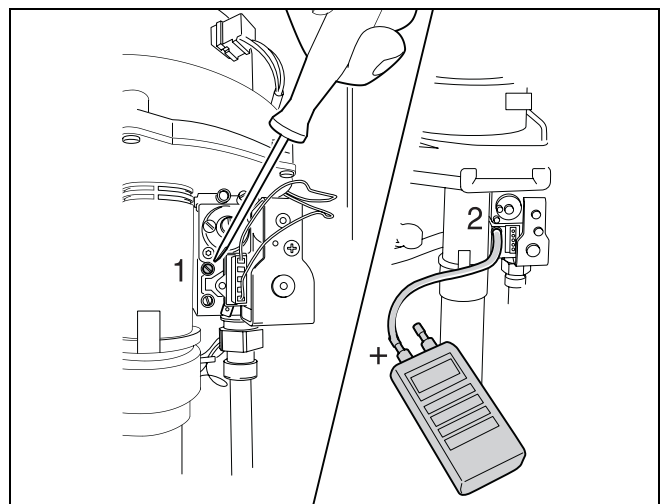

fig. 46 Check the gas/air ratio
- Open the top measuring nipple (→ fig. 46, item 1) with two turns.
- Connect a tube from the "+" side of the pressure gauge to burner-pressure testing nipple (→ fig. 46, item 2)